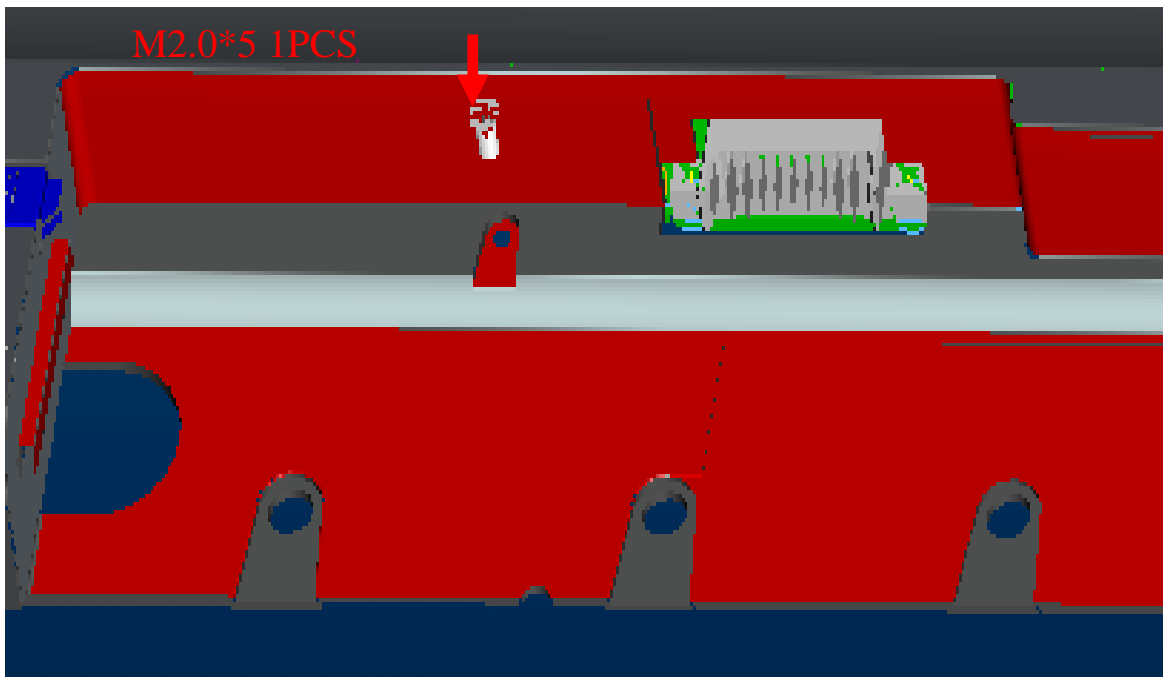

Figure 4-5-1 Remove screws on Battery fillister
The following describes the procedure for removing the keyboard (See Figure 4-5-1 to 4-5-2).
4. Disassemble **KB Holder** and **KB** screw (See Figure 4-5-1).